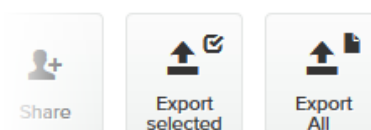

Figure 72. Plug-ins web page (code export controls)
4. To export only selected Activation codes, check the selection check-boxes to the left of each plug-in that must be included in the *.CSV file, then click the **Export selected** button. Alternatively, export all Activation codes by clicking the **Export All** button (Figure 72 (page 159)).